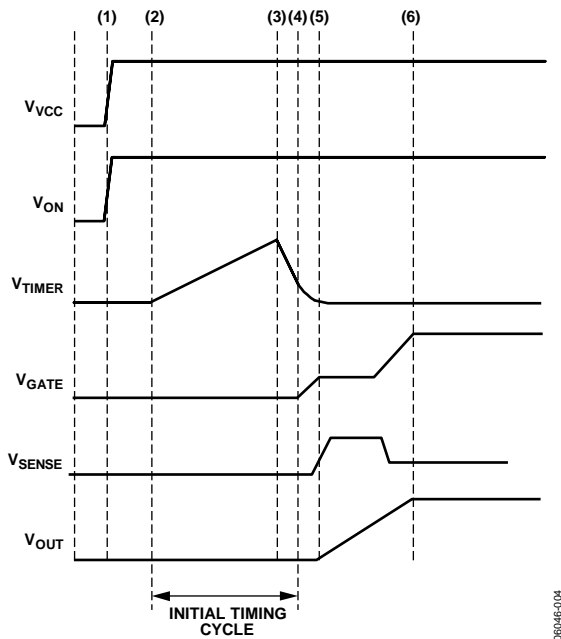

Figure 30. Startup (ON Asserts as Power Is Applied)
When VCC is first connected to the backplane supply, the internal supply (Time Point (1) in Figure 30) of the ADM1176 must be charged up. A very short time later (significantly less than 1 ms), the internal supply is fully up and, because the undervoltage lockout voltage has been exceeded at VCC, the device comes out of reset. During this first short reset period, the GATE pin is held down with a 25 mA pull-down current, and the TIMER pin is pulled down with a 100  $\mu\text{A}$  current sink.
When the initial timing cycle terminates, the device is ready to start a hot swap operation (assuming ON pin is asserted). In the example shown in Figure 30, the ON pin is asserted at the same time that  $V_{CC}$  is applied, so the hot swap operation starts immediately after Time Point (4). At this point, the FET gate is charged up with a 12  $\mu\text{A}$  current source.